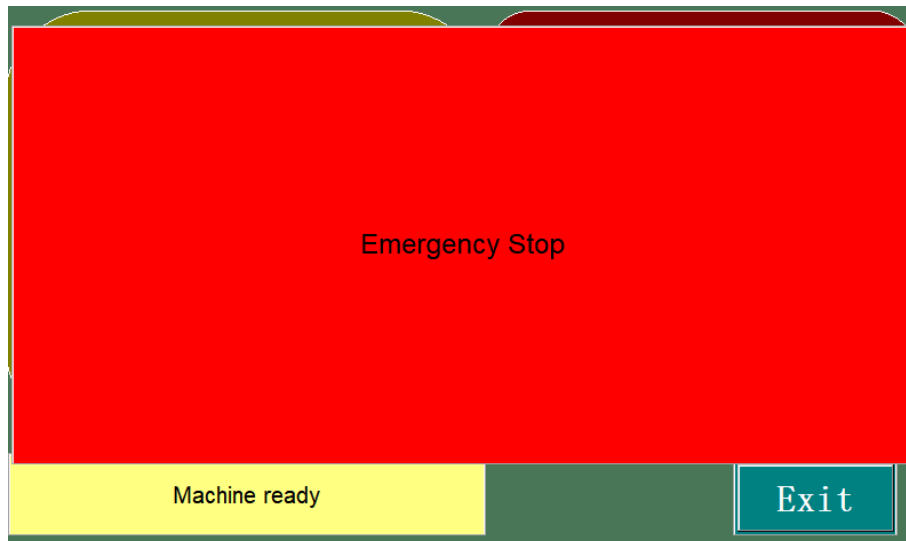

Figure 15
1. In the event of an emergency, press the STOP button. This cancels the current wrapping cycle and immediately stops the system. Figure 15 will display on the screen.